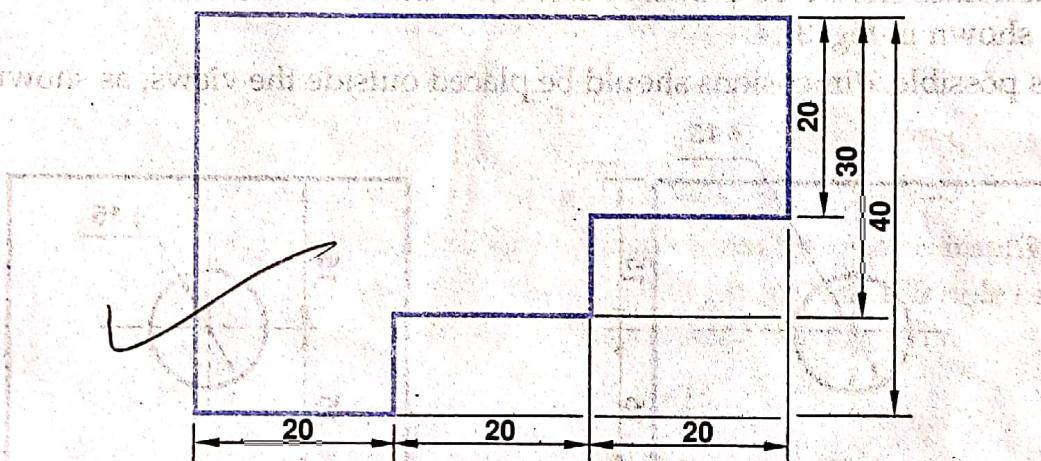

Fig. 3.11 Combined dimensioning
- (iii) **Combined dimensioning :** In combined dimensioning, both chain and parallel dimensioning are followed. See Fig. 3.11.